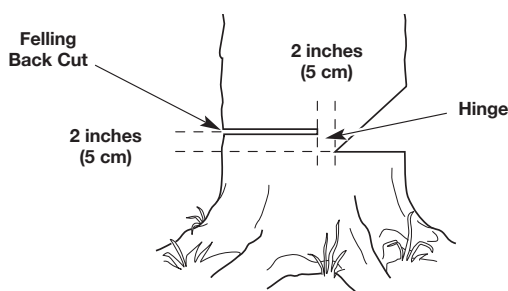

Fig. 12
1. Make a horizontal cut into the opposite side of the tree from the notched undercut (Fig. 12). Make the cut approximately 2 inches (5 cm) above the bottom of the notched undercut (Fig. 12).
2. As the cut gets close to the notched undercut, only a thin band of wood will support the tree. This band of wood is referred to as the hinge (Fig. 12). The hinge helps control the fall of the tree. Leave approximately 2 inches (5 cm) of hinge in place. Do not cut through the hinge. Cutting through the hinge could cause the tree to fall in any direction.